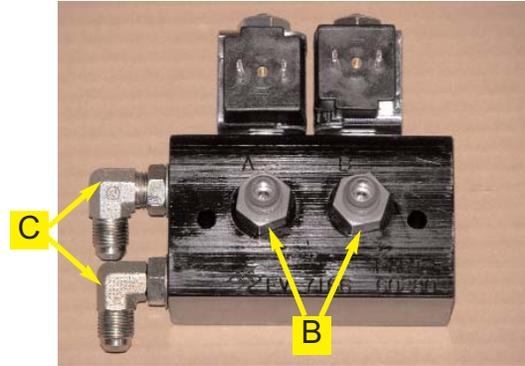

Figure 1a. Prepared Automated Steering Block.
- b. Install the elbow adapter fittings (C) in the P and T ports. (Figure 1a.)
- c. Install the check valve fittings (B) in the A and B ports. (Figure 1a.)